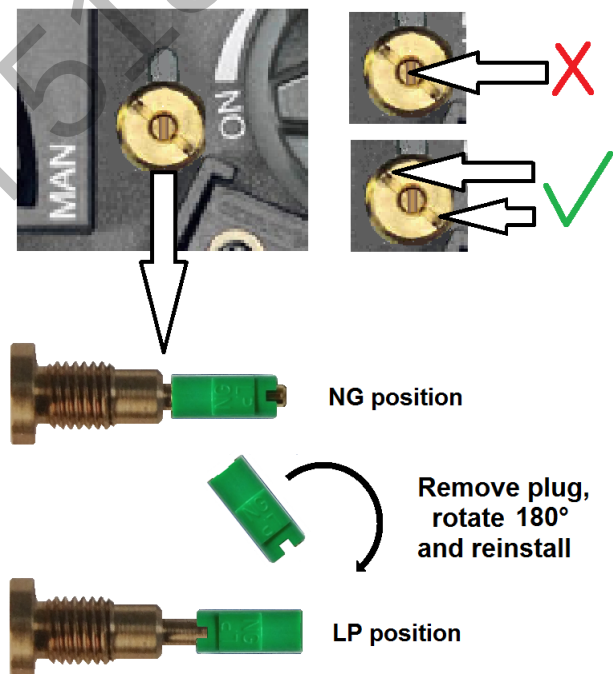

Figure 21 - GV60 LP Conversion Steps
1. The adjustment screw can be reached through a hole in the MANUAL knob (see figure 21).
Convertible regulators are designed to deliver either of two fixed outlet pressures for Natural Gas (NG) or LP Gas. To change from one gas to the other, turn the outlet pressure screw housing (see figure 21) counter-clockwise to remove. **Be careful not to engage the small flat slot on the screw itself but use the larger slot of the screw housing to remove the unit.** Unsnap and remove the plastic part, rotate it 180°, and then slide it back on the conversion plug until it snaps. Reinstall the conversion plug by screwing it clockwise until it bottoms out. The low pressure orifice must also be changed (see figure 22-27, pages 24 -25).